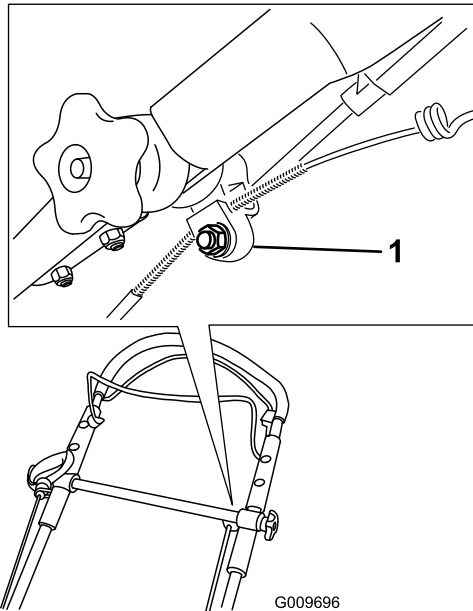

Figure 48
1. Loosen the nut on the cable mount (Figure 48).